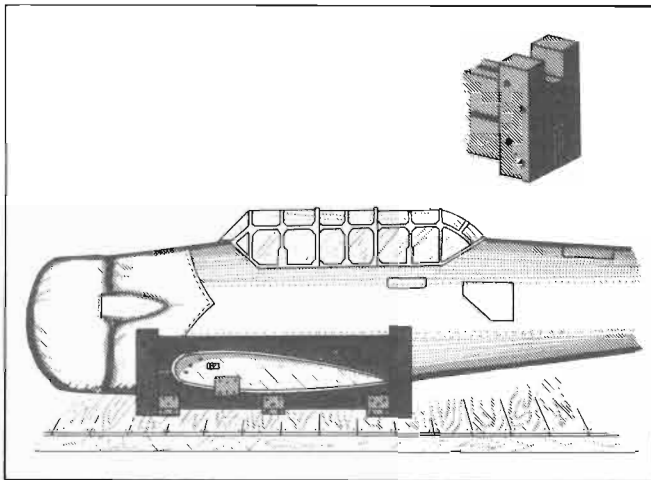

Figure 13 — Wing Center Section Cradles
- (f) Secure the wing center section in the lower cradles by means of the upper cradles, or "caps," and attaching bolts. (See figure 13.)